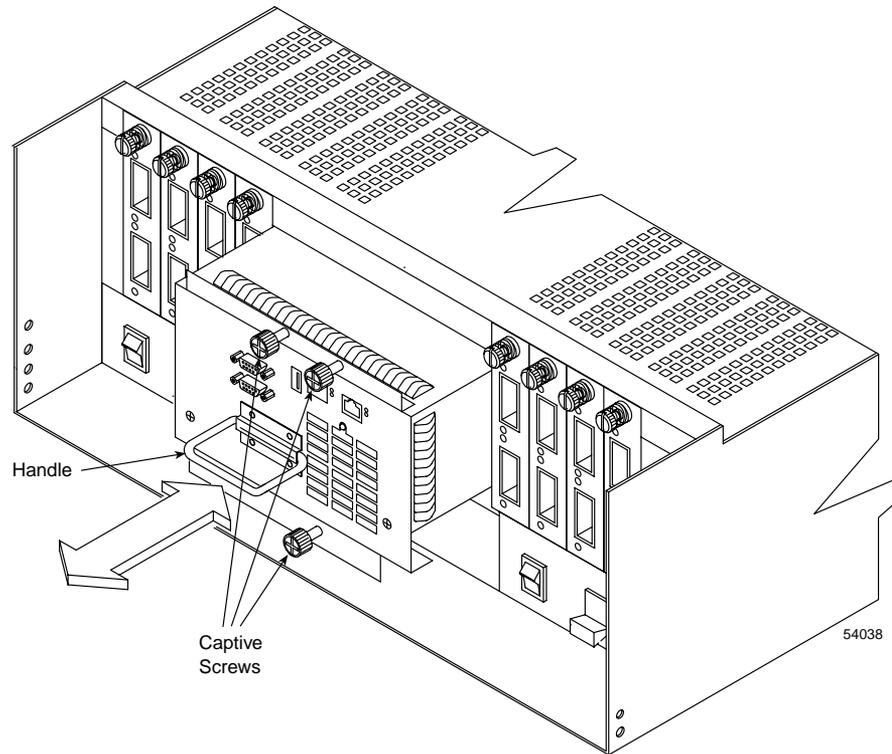

Figure 4-10 Removing and Installing a Fan/Communications Canister
4. Remove the failed fan/communications canister from the controller enclosure (Figure 4-10).